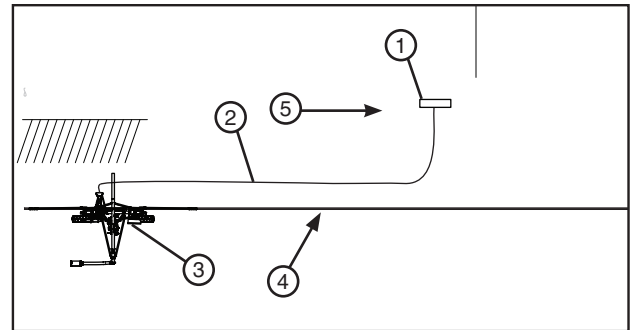

Figure 75-1 1. Power Pedestal
- (b) Position the electric cord between the cart and power pedestal so that it does not interfere with the furrow guidance arms if applicable. See figure 75-1.